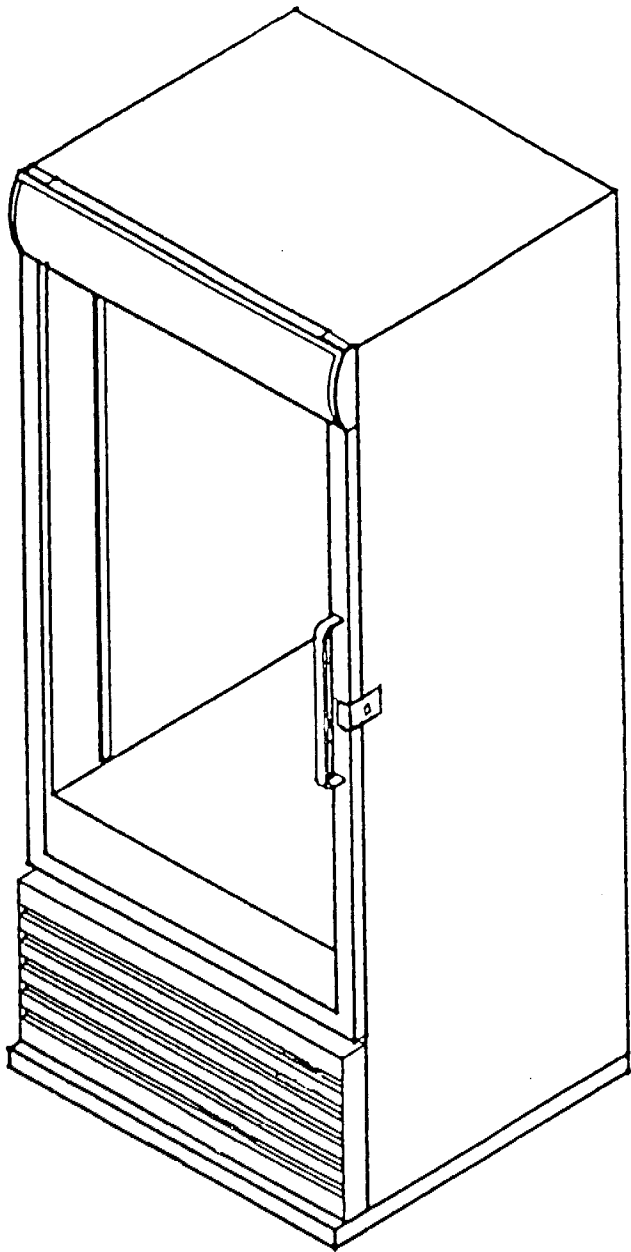

Figure 1
3. Position the hasp on the DGM so the flange that secures the door is between the shafts of the door handle and secures the front of the door. See figure 1, page 3.
5. Close the hasp and position it so the flange that secures the door is between the shafts of the door handle and secures the front of the door. See figure 1, page 3.